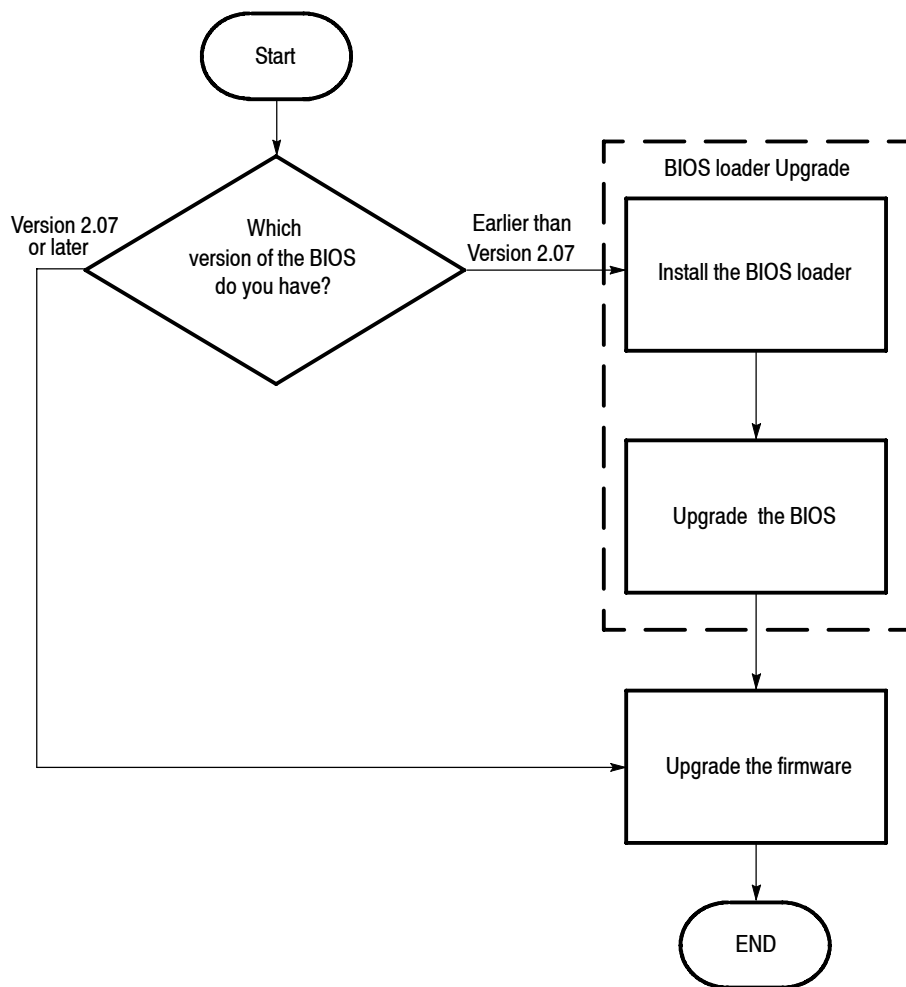

Figure 4: MTM400 upgrade path
9. Refer to Figure 4 and identify which upgrade steps are required for your instrument.
Perform this procedure only if the BIOS version of your instrument is earlier than v2.07 (see Figure 4 on page 10).